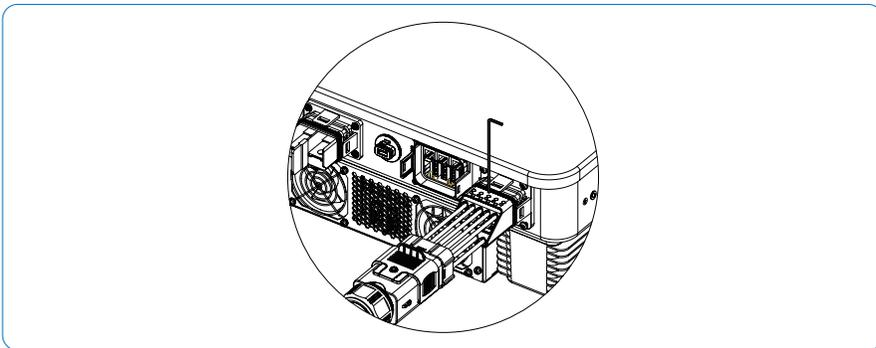

Figure 5-14 Thread into cord end terminal (optional step)
4) Connect the prepared tubular terminal to the AC port. After confirming that it is installed properly through the observation hole, tighten the screws with a hexagonal wrench (torque 2~3N·m), as shown in Figure 5-14: